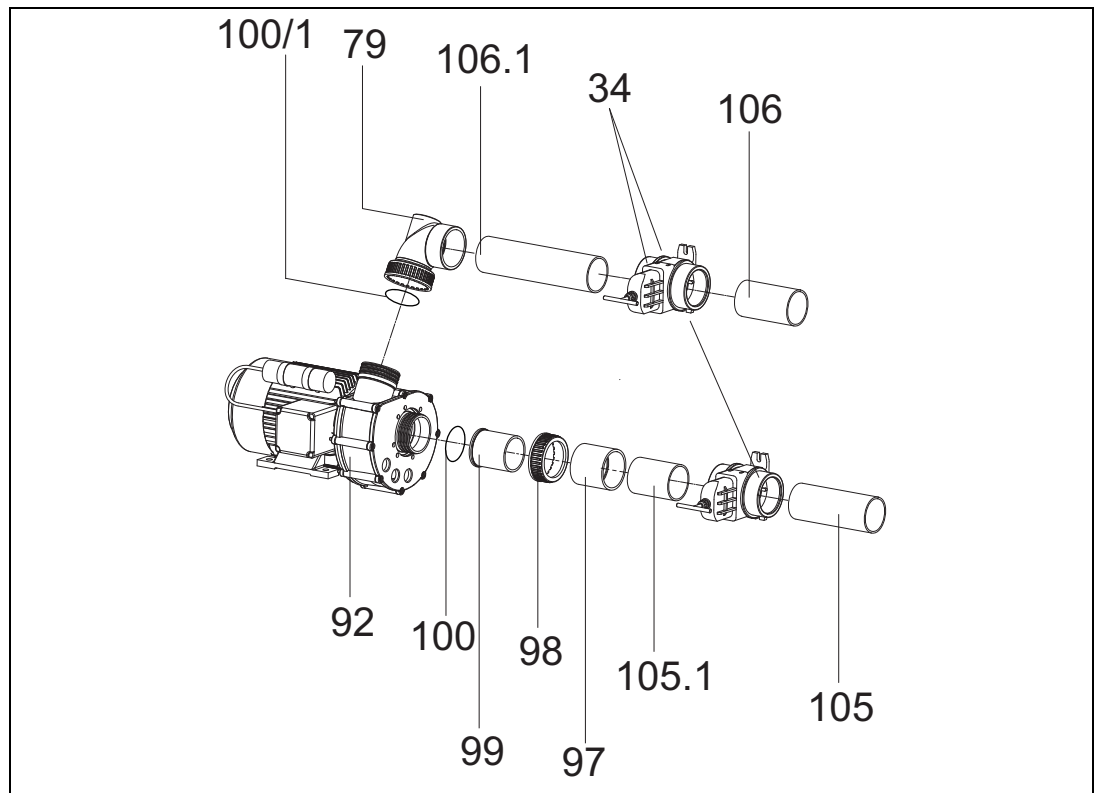

Fig. 14
13. Connect or bond the jet pump **(92)** with the suction tube **(105.1)**, adapter **(97)** and screwed connection **(98; 99)** and at the intake side with the pressure tube **(106.1)** and special reducer **(79)** at the delivery side *(Fig. 14)*.